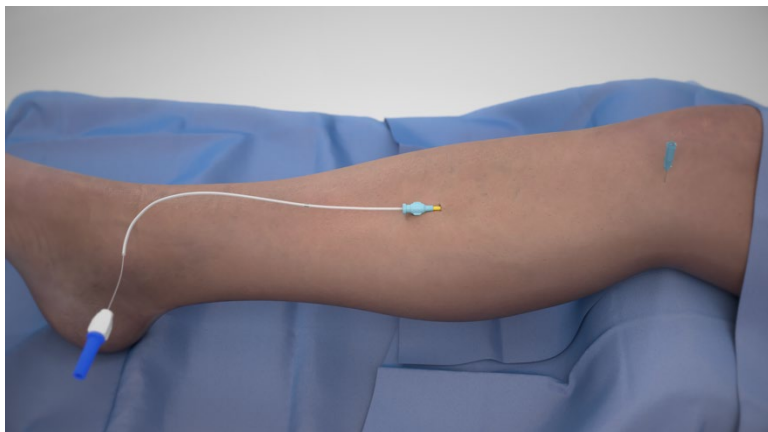

Figure 1
1. Remove the steering stylet from the Electrode Array. (Figure 1)